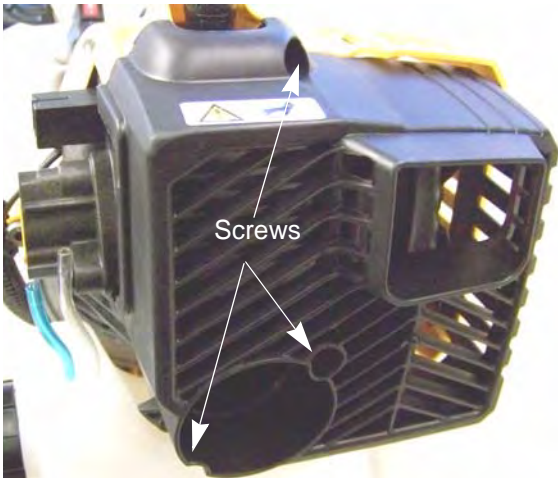

Figure 5.30
3. Remove the three screws that secure the engine cover to the engine using a T-20 torx driver. See Figure 5.30.